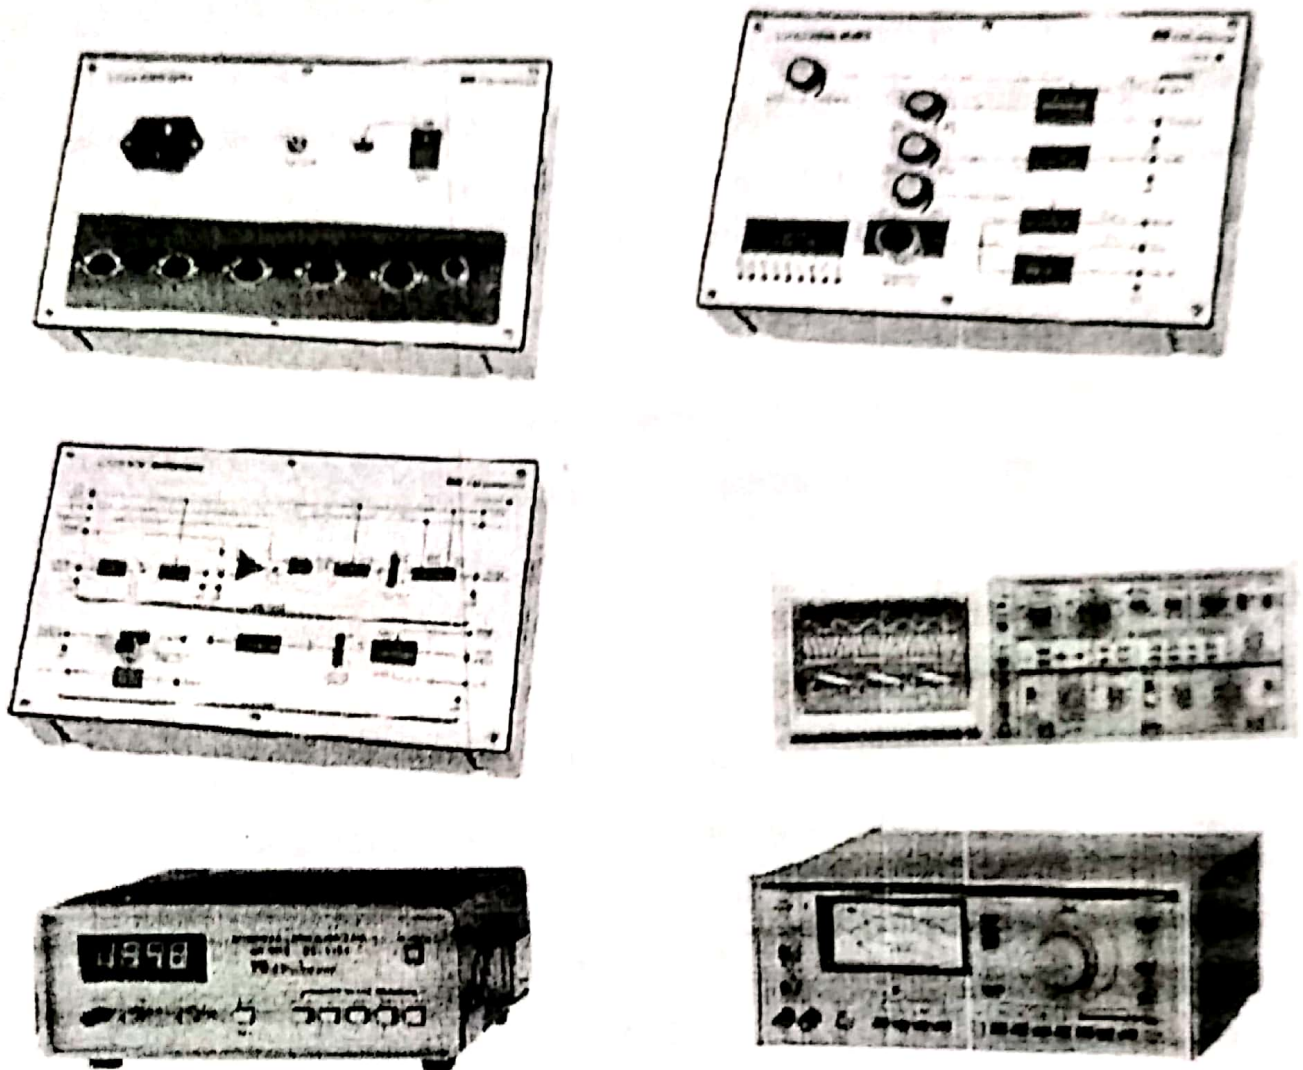

Figure 5-18. Test module & measuring equipments for experiment
- (1) Prepare module and measuring equipment like as figure 5-18. Set all ADJ. control terminals to MIN and provide power to all devices.
- (2) Set FREQUENCY SELECTOR of SIGNAL SOURCE to 8[kHz].
- (3) Connect CLK, RAMP, SINE terminal output of SIGNAL SOURCE to CLK, RAMP, AUDIO INPUT terminal of PCM 1 module.
- (4) Connect 432[kHz] of SIGNAL GENERATOR in SIGNAL SOURCE to CLK  $\times$  4 terminal and connect 128[kHz] to CLK  $\times$  16 terminal of PCM 1 module.
- (5) Connect SYNC, CLK, CLK  $\times$  4, and PCM OUTPUT to SYNC, CLK, CLK  $\times$  4, and PCM INPUT of DECODER respectively.
- (6) Connect J1 and J2 terminal and J3 terminal and NOTCH FILTER INPUT terminal.